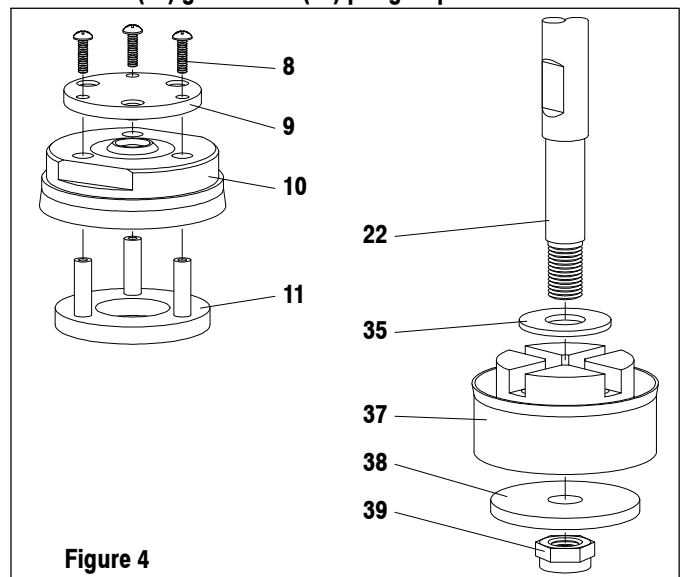

Figure 4
8. Remove the three (8) screws from the (11) valve spacer (see figure 4).
9. Remove the (9) valve plate.
10. Remove the (11) valve spacer from the (10) piston assembly.
11. Unthread (13) plunger tip from the (15) plunger by using a wrench on the flats of the (13) plunger tip and a strap wrench on the (15) plunger. **CAUTION:** Place the strap wrench on the very upper most part of the (15) plunger.
12. Remove (14) "O" ring.
13. Remove (21) dowel pin.
14. Remove (13) plunger tip.
15. Remove (15) plunger.
16. Remove (17) spring from the (18) pump body.
17. Remove (19) "O" ring from the (18) pump body.
18. Using a pipe wrench, unthread and remove the (34) suction tube from the (18) pump body. **CAUTION:** Place the pipe wrench on the very upper most or very lower most part of the (34) suction tube. Do not damage or dent this tube.
19. Remove (25) "O" ring from the (18) pump body.
20. Grasp the (22) piston rod and remove by pulling straight out.
21. Using a strap wrench on (36) tube, unthread and remove from (18) pump body. **CAUTION:** Do not damage or dent this tube.
22. Remove (26) "O" ring from (18) pump body.
23. Remove (24) plug and (23) "O" ring.
24. Clamp the (43) intake valve assembly in a vise. Using a strap wrench on (34) suction tube, unthread and remove from valve assembly. **CAUTION:** Do not damage or dent this tube.
25. Using a wrench on flats of (22) piston rod, unthread and remove (39) nut (see figure 4).
26. Remove (38) washer, (37) cup and (35) washer from (22) piston rod.
27. Remove (32) retaining ring from the (22) piston rod, using retaining ring pliers.
28. Remove (33) piston from (22) piston rod.
29. Remove two (30) packings (where applicable).
30. Remove (31) "O" ring from (22) piston rod.
- NOTE:** Do not remove (27) groove pin and (28) collar from (22) piston rod unless damage is evident. Remove (27) groove pin, releasing (28) collar.
1. Insert the (11) valve spacer thru the bottom of the (10) piston assembly (see figure 4).
2. Place the (9) valve plate on top of the (10) piston assembly, aligning the three holes with the posts of (11) valve spacer.
3. Fasten the (9) valve plate down using the three (8) screws. Lay this assembly aside for the moment.
4. Place the (28) collar on the (22) piston rod and secure with (27) groove pin.
5. Assemble (29) washer next to (28) collar on (22) piston rod.
6. Grease and assemble (31) "O" ring to (22) piston rod.